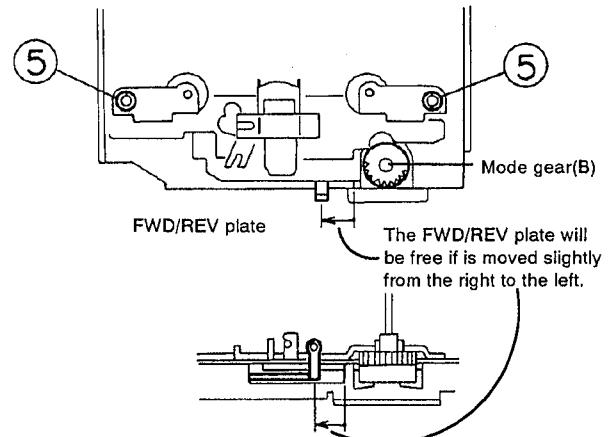

Fig. 4-10
■ Pinch roller ass'y (See Figs. 4-10 and 4-11)
- 1) Remove two C washers ⑤ securing the pinch roller ass'y (do this for both the FF and REV modes).